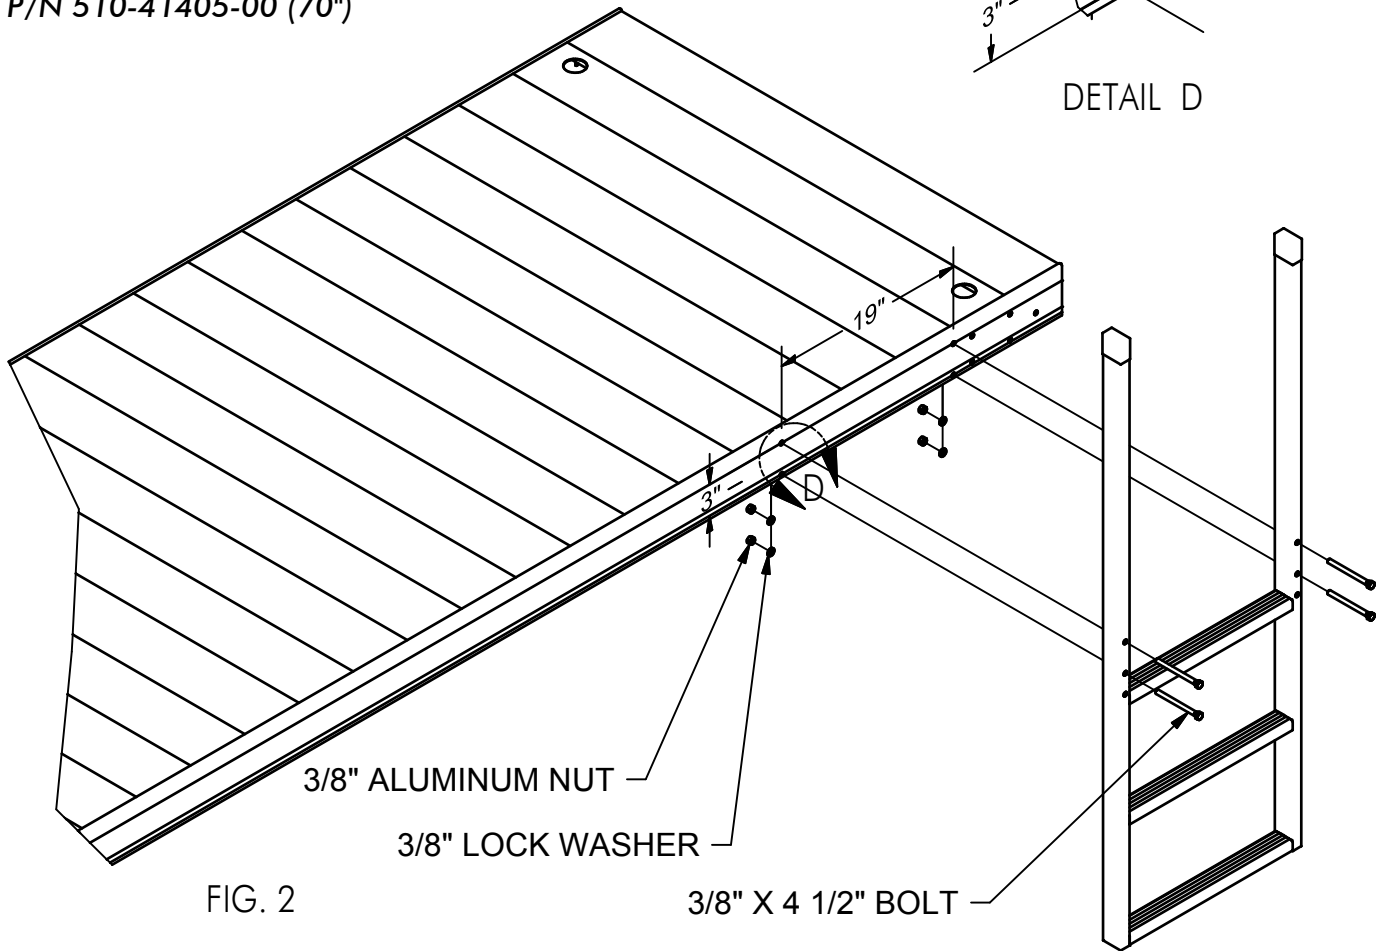

FIG. 2
- FOR ATTACHMENT TO A SECTIONAL DOCK, MOUNTING HOLES MUST BE DRILLED USING A 13/32" DRILL BIT. AFTER DETERMINING THE LOCATION OF THE LADDER, USE A FRAMING SQUARE AND MARK A VERTICAL LINE ACROSS THE TOP AND BOTTOM SERRATION (THESE SERRATIONS ARE 3" APART AND ARE INTENDED TO ACT AS A HOLE SPACING REFERENCE; REFER TO DETAIL D). MARK A SECOND LINE 19" FROM THE FIRST AS SHOWN IN FIGURE 2. USE THE HAMMER AND CENTER PUNCH TO MAKE A DIMPLE FOR THE DRILL BIT. THIS HELPS TO PREVENT THE DRILL FROM WANDERING DURING THE DRILLING PROCESS. KEEP THE DRILL BIT PERPENDICULAR TO THE DOCK FRAME WHILE DRILLING. INSERT (4) 3/8 X 4 1/2" BOLTS THROUGH THE MOUNTING HOLES OF THE LADDER AND THROUGH THE DOCK SIDE. PLACE (4) LOCK WASHERS AND (4) ALUMINUM NUTS ON THE BOLTS, AND TORQUE TO 20 FT/LBS., MAKING SURE THE LADDER IS SQUARE TO THE DOCK.